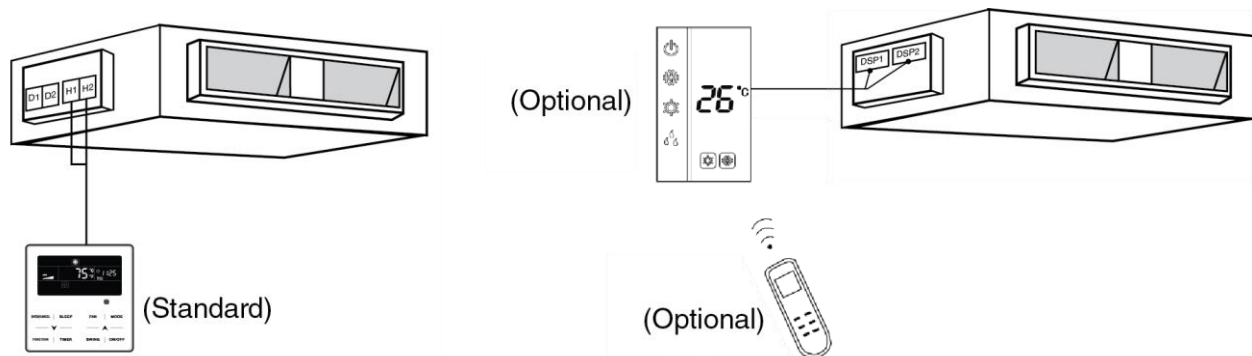

Fig. 30
6. Fig30 shows the installation of the wired controller.